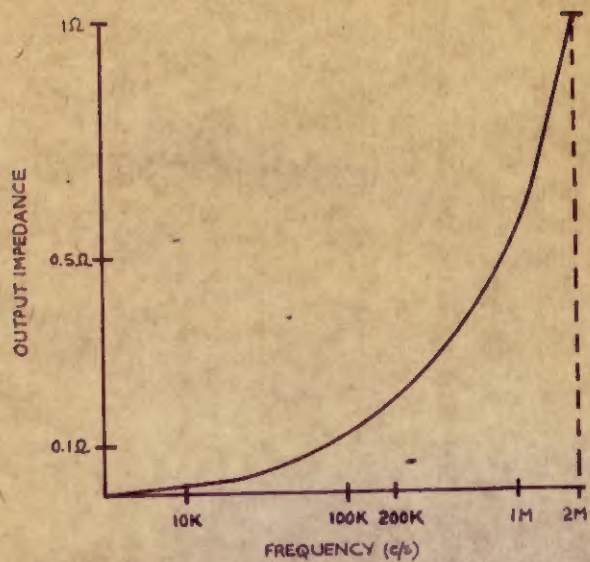

Fig 2. Output Impedance.
See Fig. 2.
- (iii) Output Impedance—For alternating load superimposed on a steady load, the output impedance of the supply increases with frequency, due to fall off in gain of the amplifier until it is determined only by the capacitor across the output terminals. A typical output impedance-frequency curve is shown in fig. 2. This again is measured with the appropriate O/P and F/B terminals linked at the terminals.